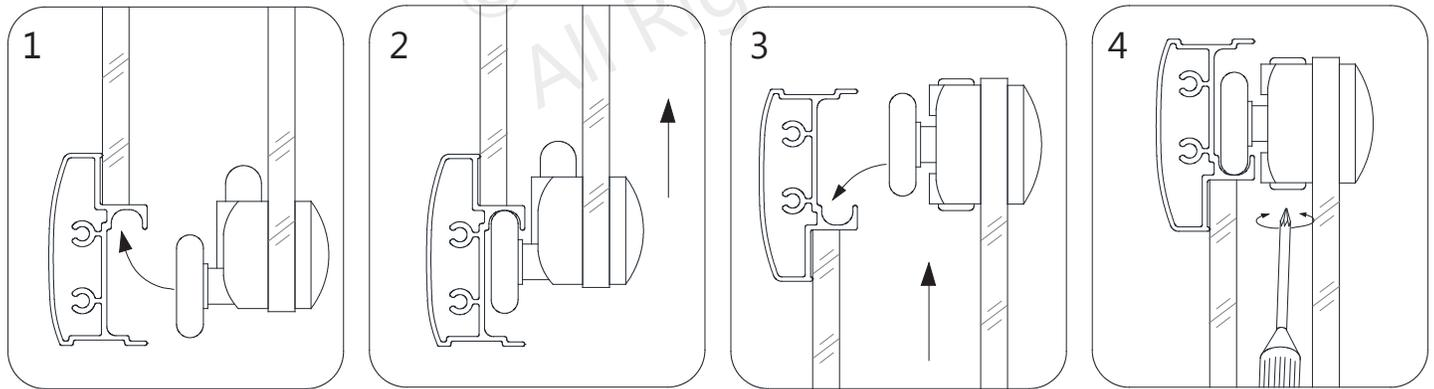

Fig 12
12. From inside the shower, insert the **Bottom Wheel Assemblies (#17)** into the bottom **Guide Rail (#03)** (Fig 12.1-2), lift the door up and set the **Top Wheel Assemblies (#17)** into the top **Guide Rail (#03)** (Fig 12.3). Test the operation of the door, and if necessary, use a #2 Phillips screwdriver (do not use a power screwdriver) to adjust the upper wheels so the door rolls smoothly and closes tight. (**Fig 12**)